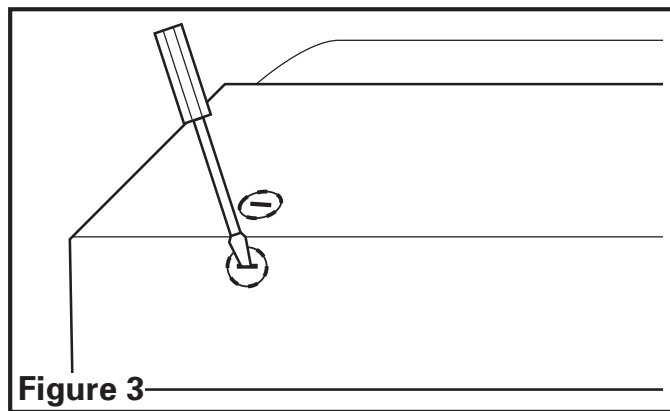

**Figure 2**
1. If the hood will be installed under cabinets that have a recessed bottom, it will be necessary to install wood mounting strips (not included) so the hood will mount properly (**Figure 2**).